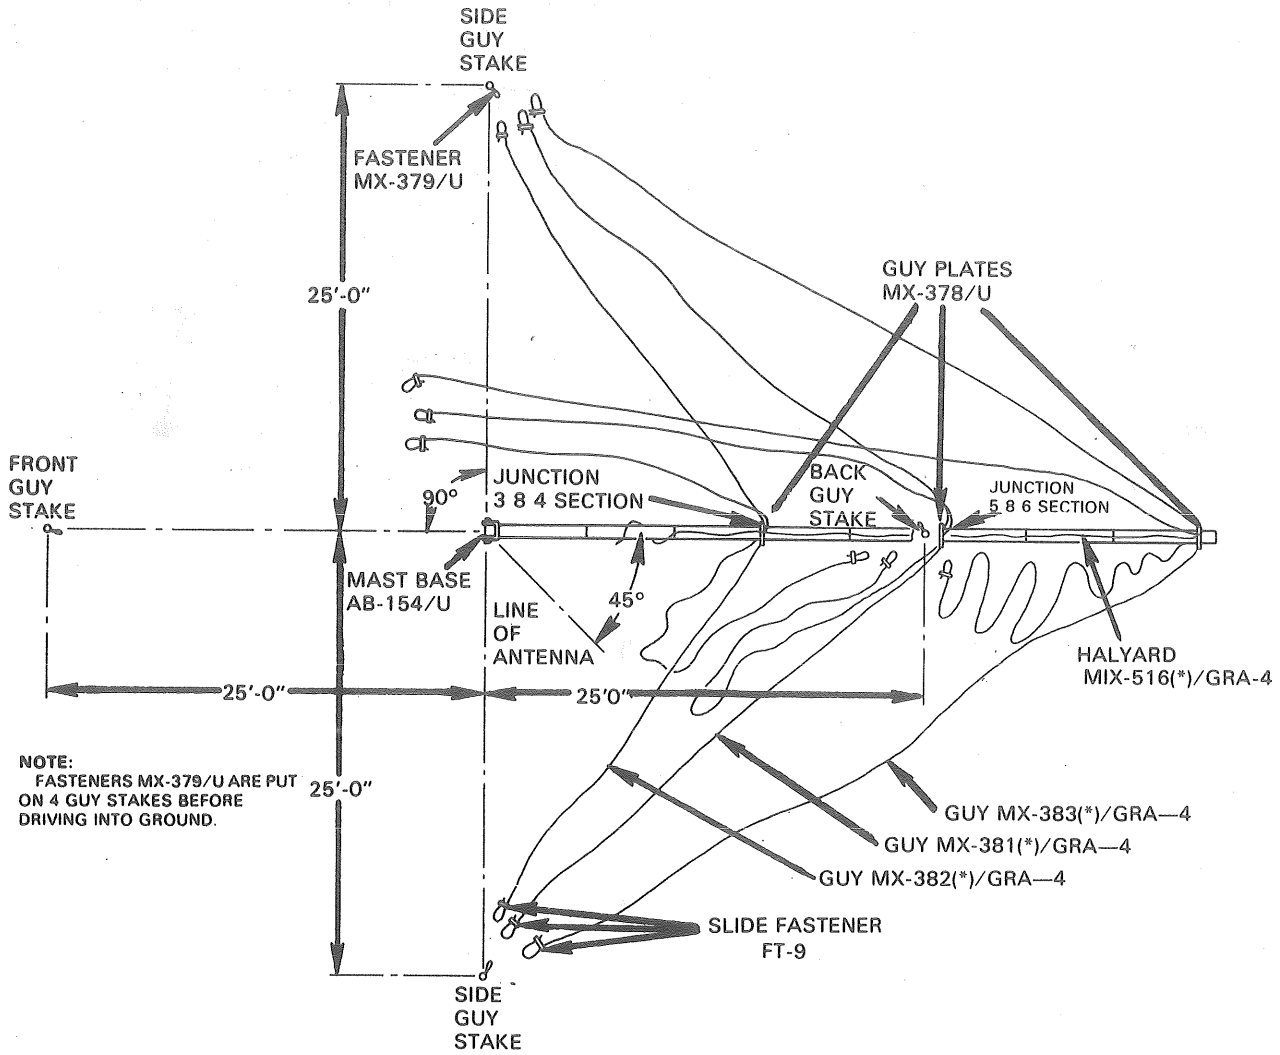

Figure 2. Preparing Mast AB-155(*)/U for Erection.
3. Check Mast AB-155(*)/U preparation for erection. (Refer to fig 2, and TM 11-5820-256-10, para 2-6c; and TM 11-5815-334-12, para 2-8.)